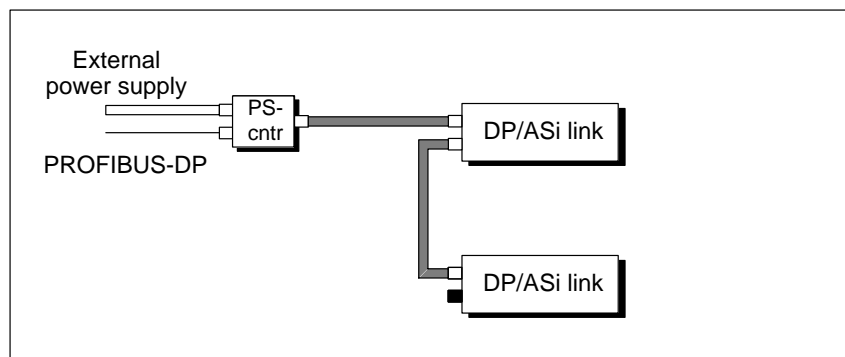

Figure 3-2 PROFIBUS-DP and power supply looped through on DP/ASi link
**Installation** Fig. 3-2 shows a possible installation for the configuration with a power supply connector and without a T connector: